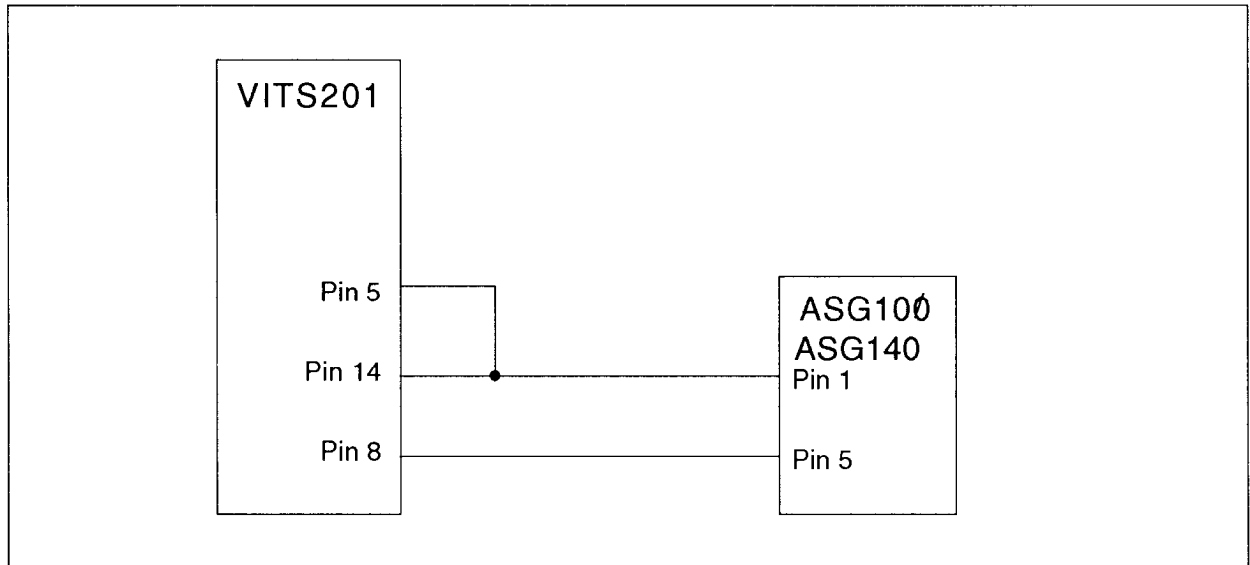

Figure D-3. Cabling between the VITS201 and the ASG 100/ASG 140.
5. Connect a special cable between the VITS201 remote connector and the ASG100 remote connector as shown in Figure D-3.